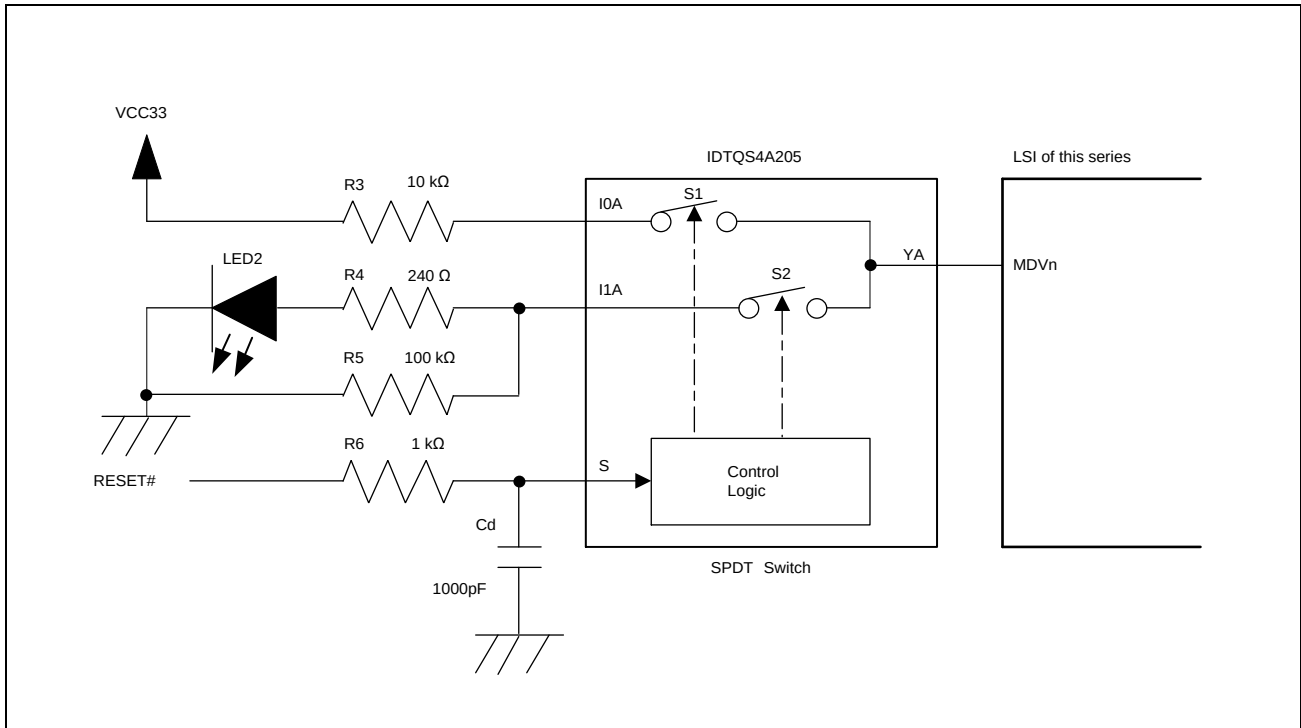
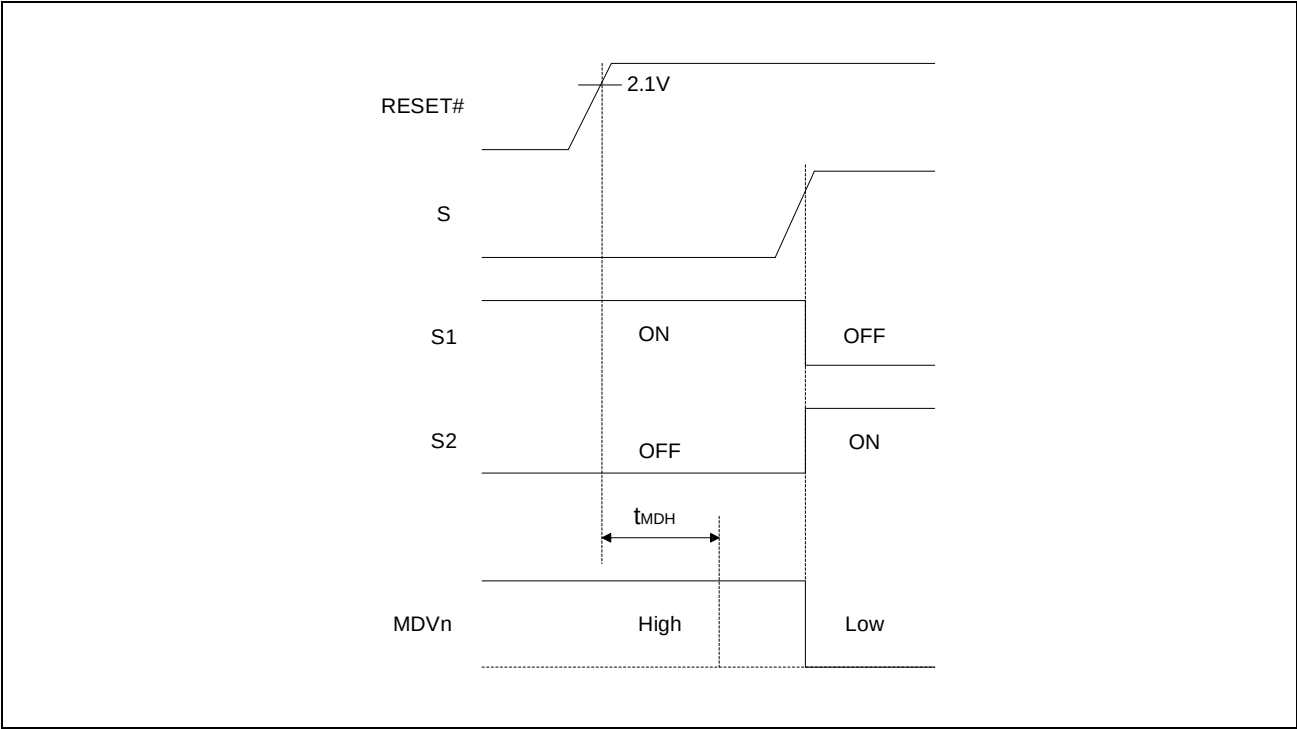

Figure 2.3 Example of the circuit for MDVn = High (3.3 V) setting
Figure 2.4 MDVn circuit timing chart for MDVn = High setting
**Figure 2.3** shows an example MDVn circuit for High setting, and **Figure 2.4** shows an example timing chart for this circuit example. In this circuit example, during reset (RESET# = Low), SPDT (Single Pole Double Throw) switch S1 is on, S2 is off, and MDVn is pulled high by pull-up resistor R3.